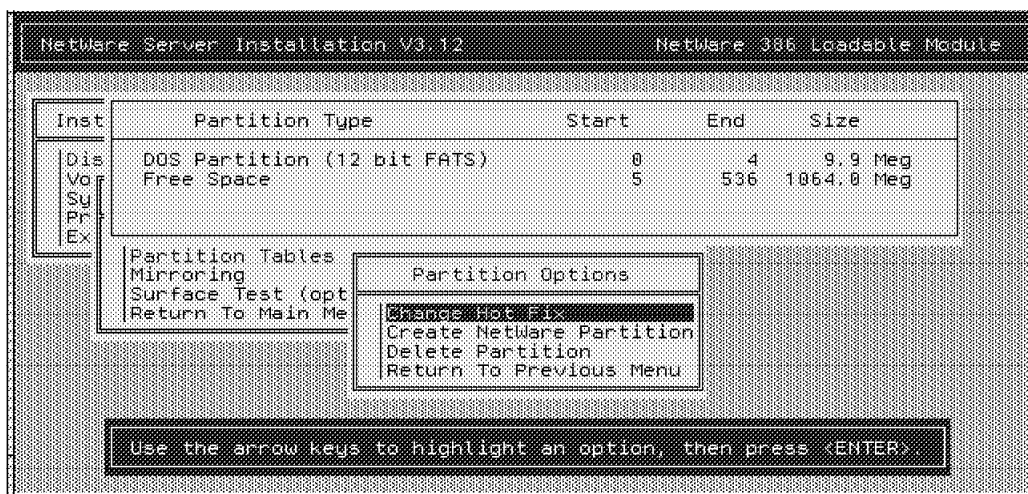

Figure 83. Create Partition
21. Select **Partition Tables** from the available disk options menu. You will see a screen like the one in Figure 83.